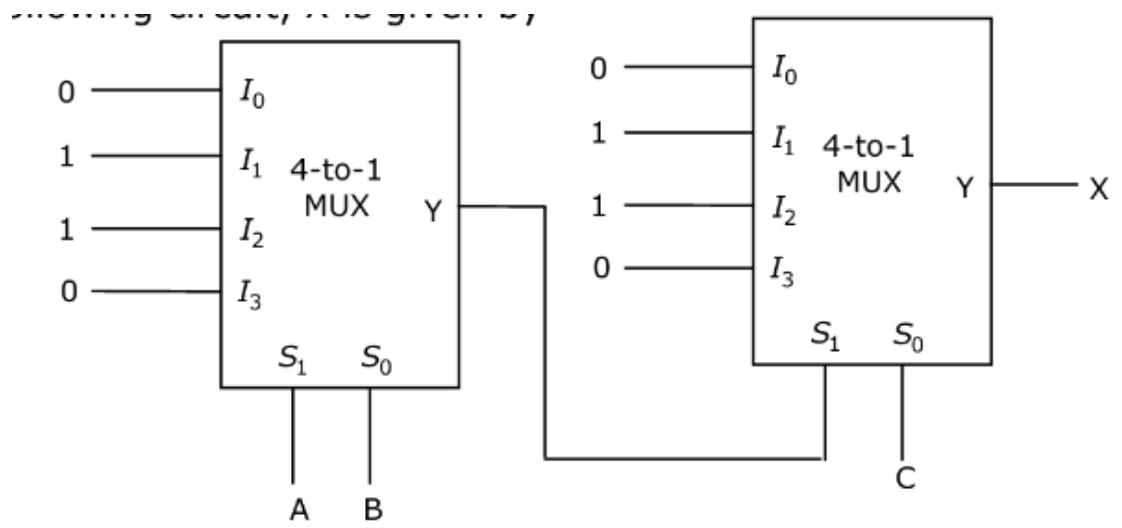

Figure 3.4:
16. Find X in the following circuit in Fig. 3.4 (GATE EC 2007)